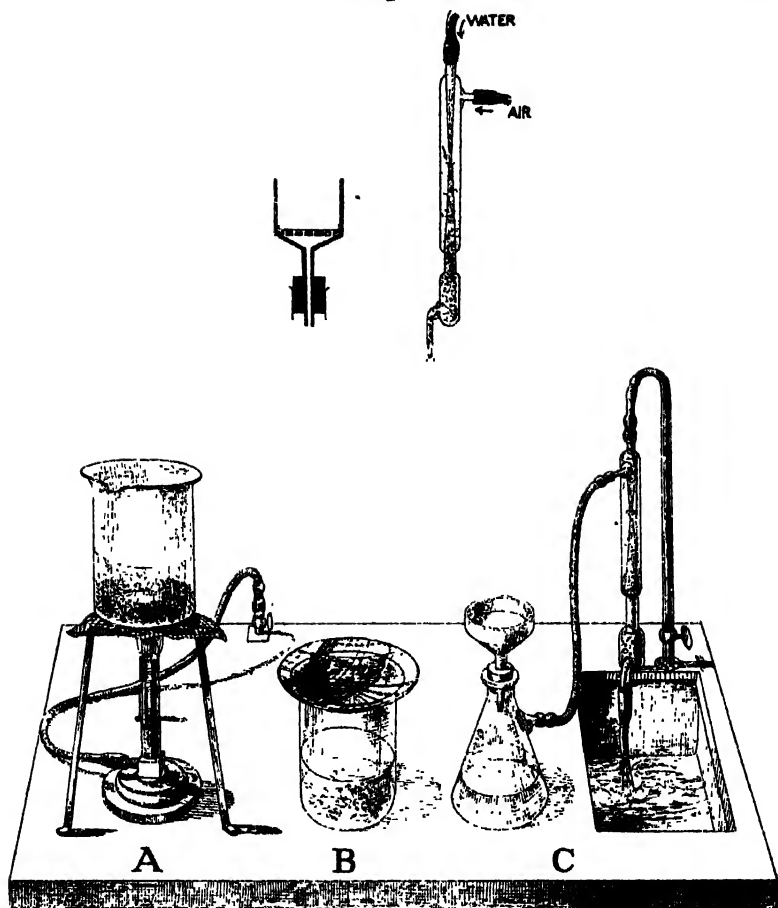

FIG. 349.—Purifying a substance by crystallisation.
These things can be purified by crystallisation. The principle is quite simple. Suppose you have a mixture of, say, Glauber's salt (sodium sulphate) with about a twentieth of its weight of ordinary salt. You can dissolve 20.25 grams of Glauber's salt and no more in 100 cubic centimetres of cold water (10°C .) and a considerable amount of common salt as well. But you can dissolve 65 grams of Glauber's salt and a large amount of common salt in the same amount of warm water at 30°C . So take 65 grams of your mixture containing 61.75 grams of Glauber's salt and 3.25 grams of common salt, and dissolve it in 100 c.cs. of warm water at 30°C . or more. Now let it cool to 10°C . The water will still dissolve the 3.25 grams of salt but will only dissolve 20.25 grams of Glauber's salt. So, the odd 41.5 grams ($61.75-20.25$) of the latter appears as pure crystals without any salt! The chemist would probably do the operation as in Fig. 349. He would warm up the salt mixture and water in a beaker, a strong thin glass tumbler with rounded corners (A). He would leave this to cool with a "clock-glass" over it to keep out dust (B). He would then
suck the liquid away from the crystals with the clever little gadget shown inset in Fig. 349. The jet of water mixes with air in the conical tube and carries it away as a froth of bubbles. This reduces the air pressure in the filter flask (C). The affair at the top of this is a kind of china colander, covered by a filter paper, which is a sort of strong thin porous blotting-paper. The pressure of the air pushes the liquid through into the flask and the crystals stay behind on the paper. The crystals are pure Glauber's salt: but